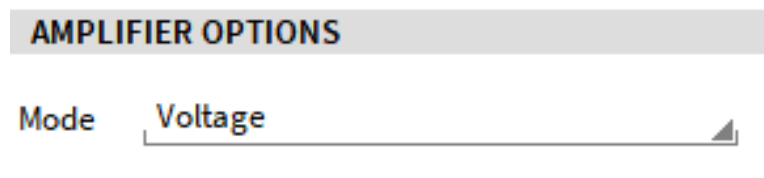

Fig. 7.46: Voltage measurement mode
- Set the Amplifier Mode to Voltage (see Fig. 7.46):